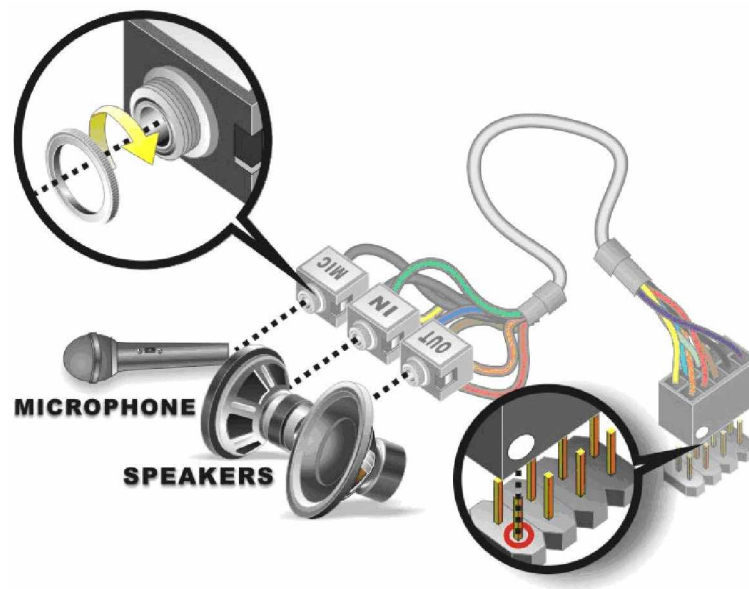

Figure 5-11: IDE Cable Connection
Step 2: **Align pin 1.** Align pin 1 on the onboard connector with pin 1 on the audio kit connector. Pin 1 on the audio kit connector is indicated with a white dot. See **Figure 5-11**.